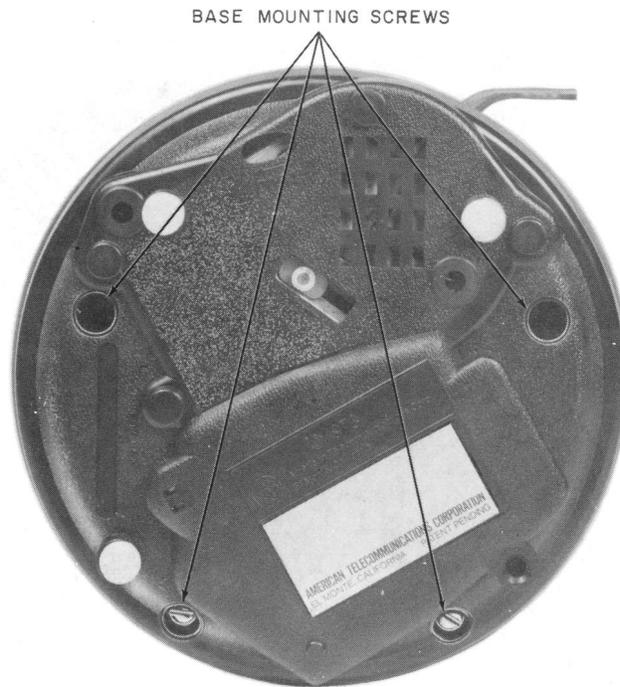
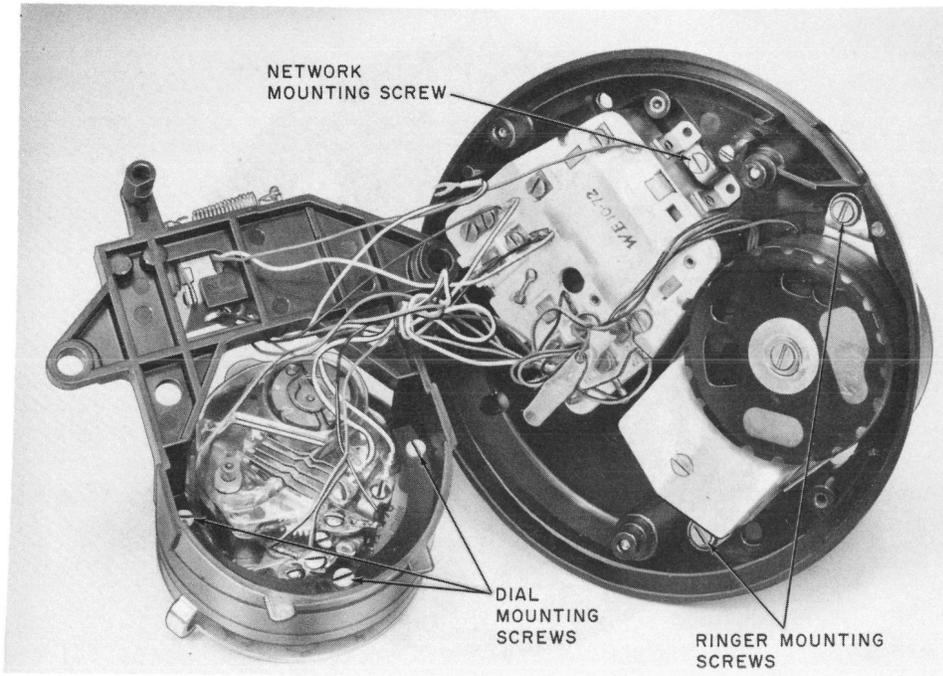

Fig. 2—881A105 (MD), 881A106 (MD), 881A107 (MD), or 881A108 (MD) Telephone Set, Bottom View
Fig. 4—Removing Dial, Network, and Ringer
- (1) Remove four base mounting screws from the bottom of the telephone set and remove bottom base (Fig. 2).
- (3) Remove one network, two ringer and three dial mounting screws from the base and remove network, ringer and dial (Fig. 4).
- (4) Unscrew transmitter and receiver caps and remove T1 transmitter and U3 receiver units.
- (5) Replace dial frame and base using four screws removed in Step (1), see Fig. 2.